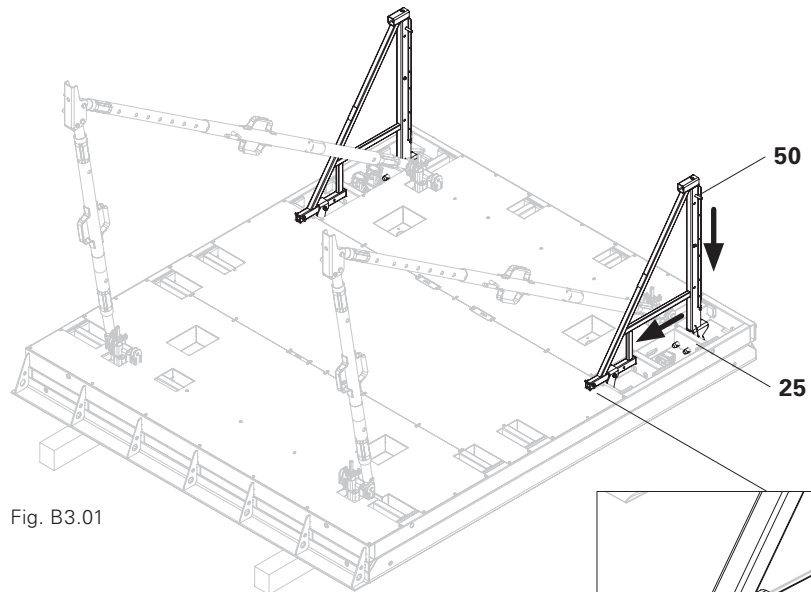

Fig. B3.01
1. Push the Scaffold Bracket MXK (50) with the top and bottom Connector RS MXH from above into the connection hole for scaffold brackets (25). (Fig. B3.01)